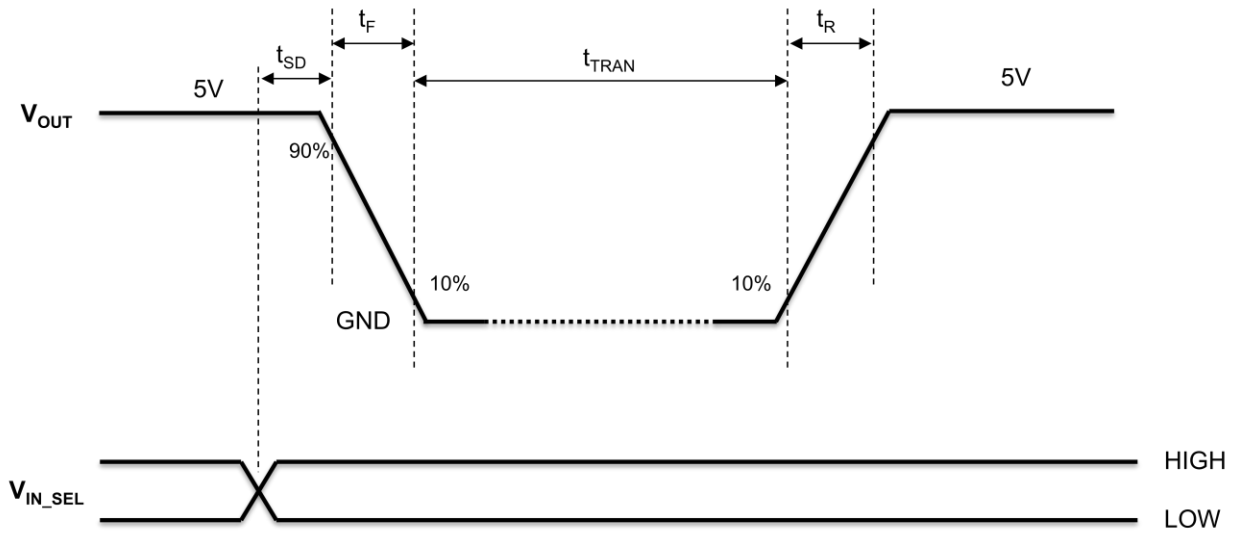

Figure 6. Transition Delay ( $V_{IN}=V_{BUS}=5\text{ V}$ )
- $t_{SD}/t_{TRAN}/t_r/t_f$  are defined in Figure 6.